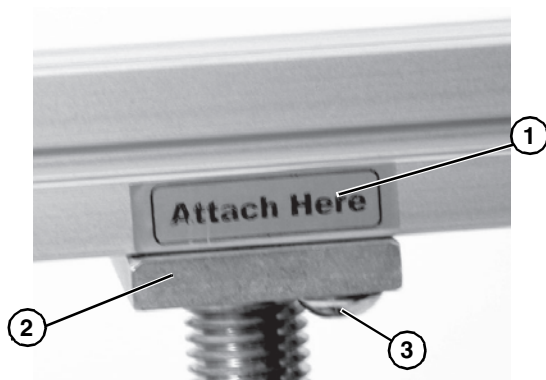

Figure 16
11. To center the conveyor mounting bracket (Figure 14, item 3), position the “Attach Here” sticker (Figure 16, item 1) with the end plate (Figure 16, item 2) of the stand top screw assembly.
Failure to secure screws (Figure 16, item 3) may cause conveyor sections to drop down, causing severe injury.
TIGHTEN ALL SCREWS (Figure 16, item 3) AFTER ADJUSTMENT.
12. Tighten the button screws (Figure 16, item 3) to 100 in-lb (11 N-m).